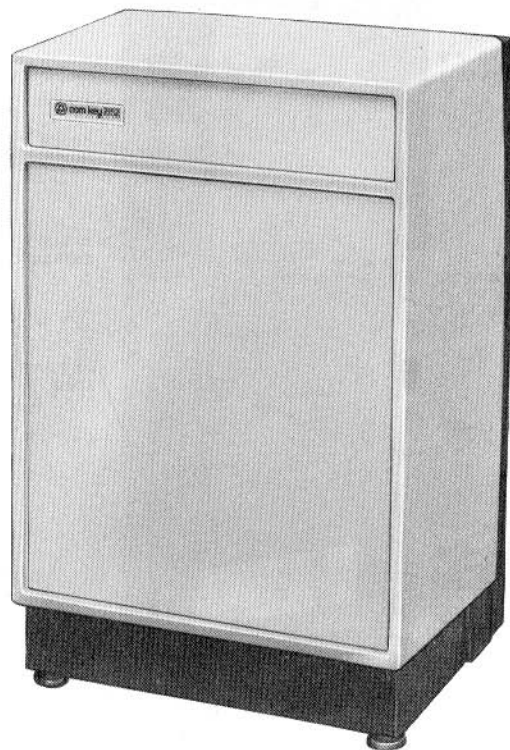

Fig. 37—154A Cover on 34C Cabinet
8.04 A 154A cover (Fig. 37) can be used with a 34C cabinet, or a 154B cover with a 34D cabinet, to provide a more finished appearance in